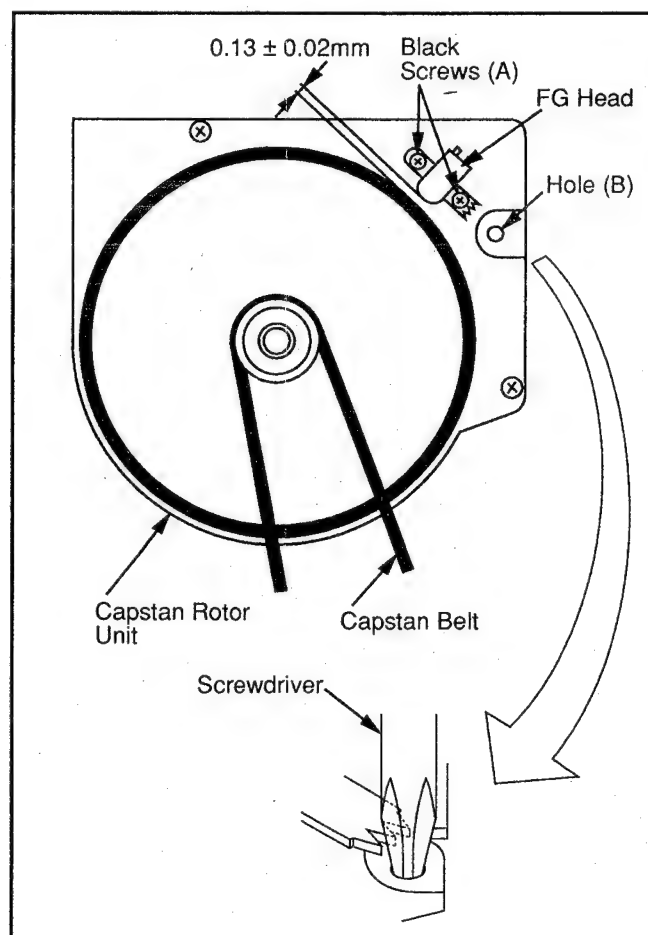

Fig. M18
3. Slightly loosen 2 Black Screws (A) and set the Screwdriver (#1 or #2 Phillips Driver) into the Hole (B) shown in Fig. M18. Turn the screwdriver counterclockwise until the FG Head touches the rotor. Then turn it slightly clockwise to the clearance as specified.
4. Tighten 2 Black Screws (A) shown in Fig. M18.
1. Remove the Capstan Belt (Fig. M18).